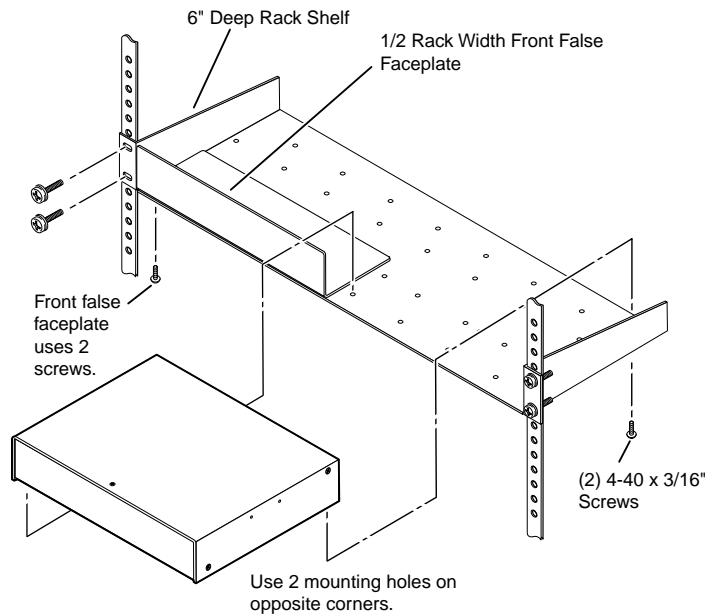

Figure 5. Mounting the Unit on a 3-inch Rack Shelf
- RSU 126 6-inch deep universal rack shelf kit (part #60-190-10). See figure 5.
2. Mount the unit on the rack shelf, using two 4-40 x 3/16-inch screws in opposite (diagonal) corners to secure it to the shelf (figure 5).